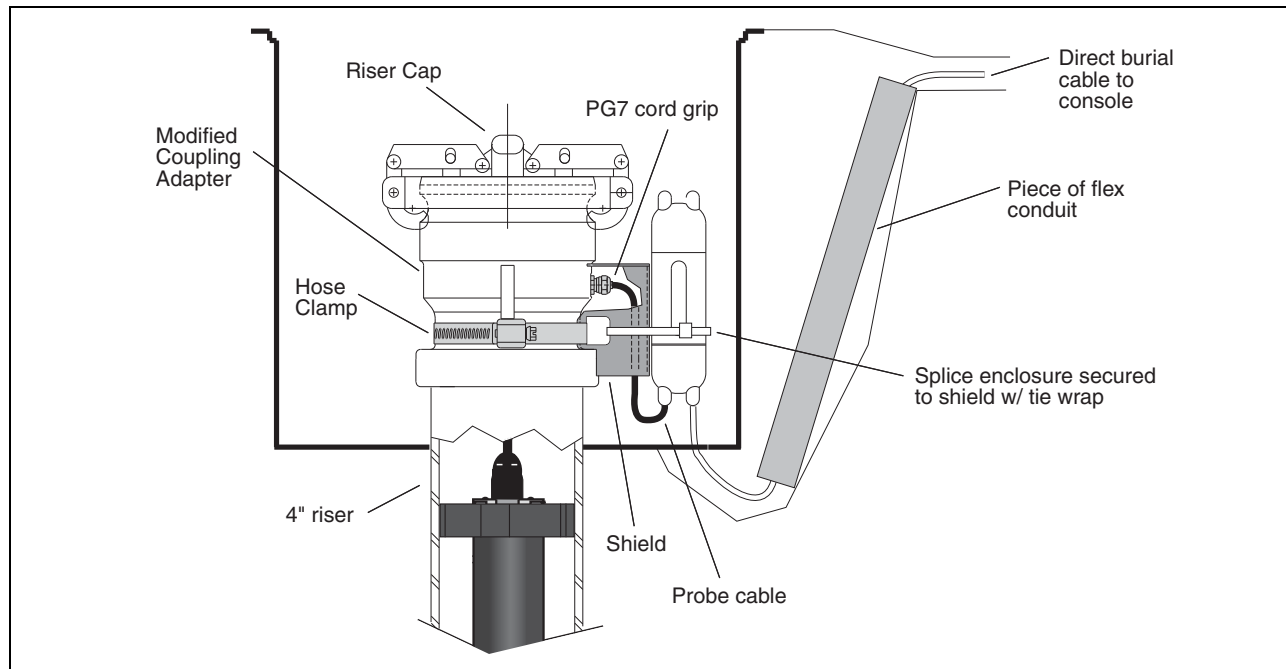

Figure 13. Mag Probe Vapor Extractor Riser Installation - w/ Coupling Adapter
12. Position the Shield-Fitting over the PG7 cord grip and secure with the hose clamp (see Figure 13 on page 15).